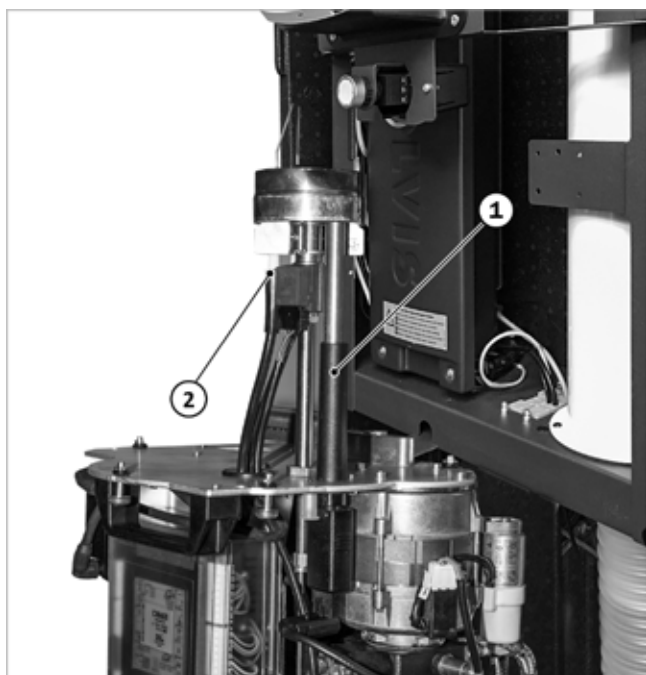

Fig. 140: Attaching the burner to the console
1. Remove the viewing sleeve; see → fig. 140 (1).